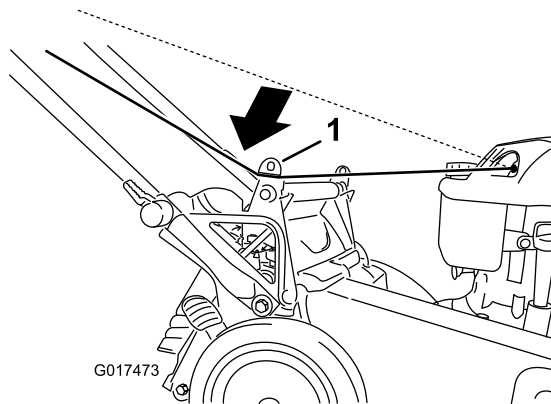

Figure 26
1. Route the starter rope around the lower rope guide (Figure 26).